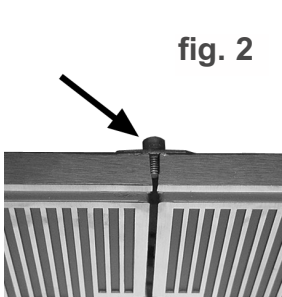

fig. 2
- 3.1.1. Remove the table aligning screw and clamp from the underside of the table (fig. 2).